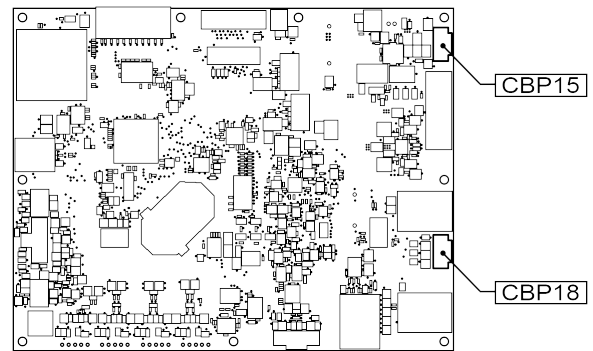

Figure 12
10. Using the harness included with the printer, connect to the control board as shown in Figure 12. The wires are marked with their respective connector labels.